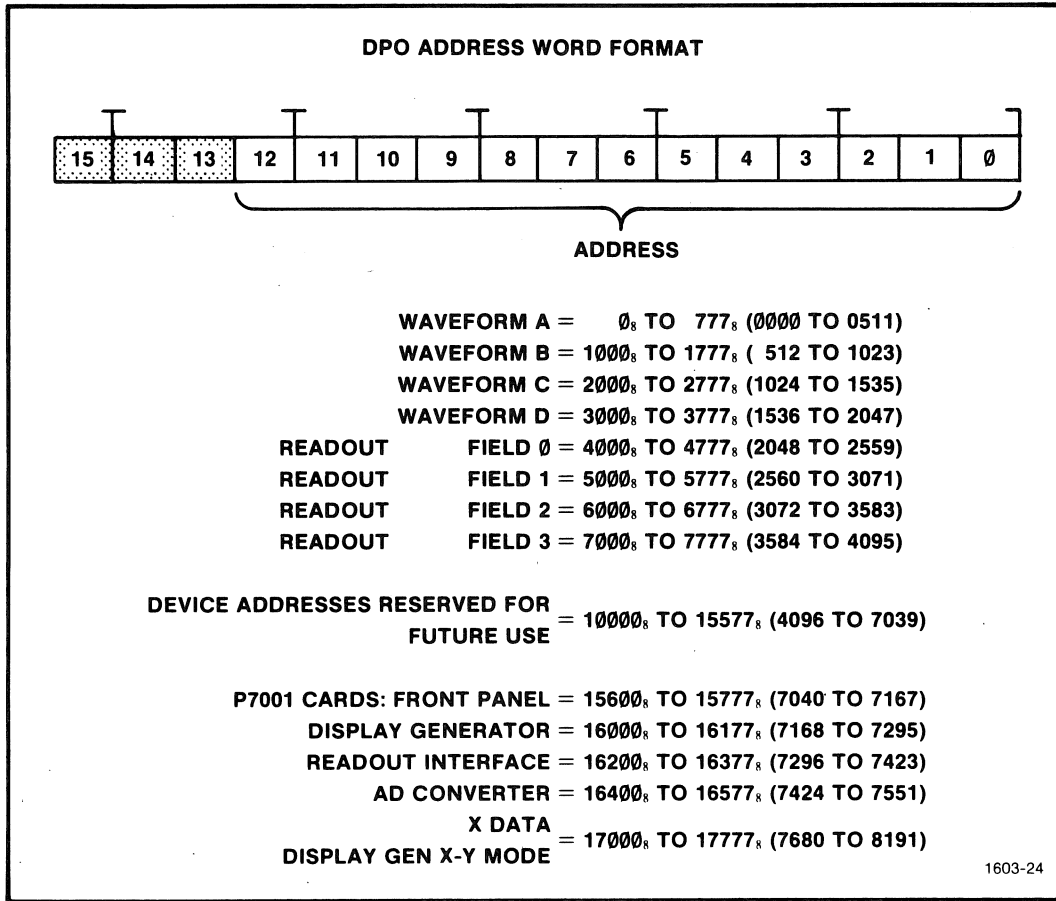

Fig. 2-7. DPO Address Word Format.
- 1) DAR-DPO ADDRESS REGISTER. The DAR is a 13-bit register located on the DPO/CP Bus Interface card. When data is written into the DAR, the 13 low order bits of the CP1100 Controller will be placed into the DAR. If a READ operation is attempted from the DAR, a value of zero will be returned and the contents of the DAR will remain unchanged. Addresses normally sent to the DAR are sent in the format shown in Fig. 2-7.